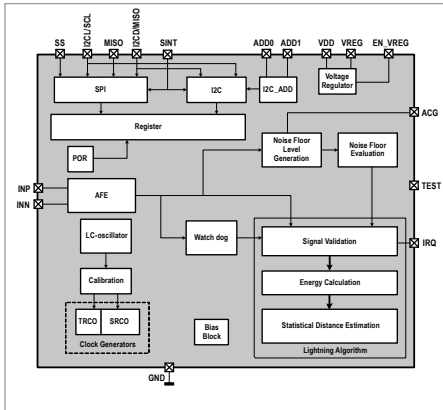

Figure 2. Block diagram of AS3935 Storm Detector.
**Figure 2** shows a block diagram of the AS3935. Like the Popov system, it monitors the LF bands (500 kHz – 2 MHz) to detect the strong  $1/f$  signature characteristic of lightning. The system includes an Analogue Front-End (AFE), which amplifies the input signal picked up by the antenna and transfers it to the baseband, while filtering it for back-end numerical elaboration. The